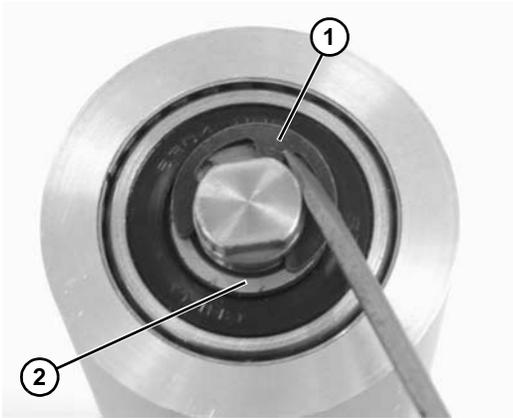

Figure 76
6. Remove the pulley shaft assembly: remove the clip ring (Figure 76, item 1) and washer (Figure 76, item 2) from one side of the pulley assembly.